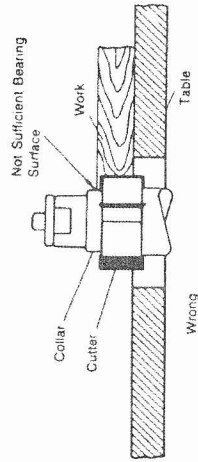

Fig. 11
3. A portion of the work's edge must remain untouched by the cutter so that the collar will have sufficient bearing surface. See figure 11 for an example of insufficient bearing surface.